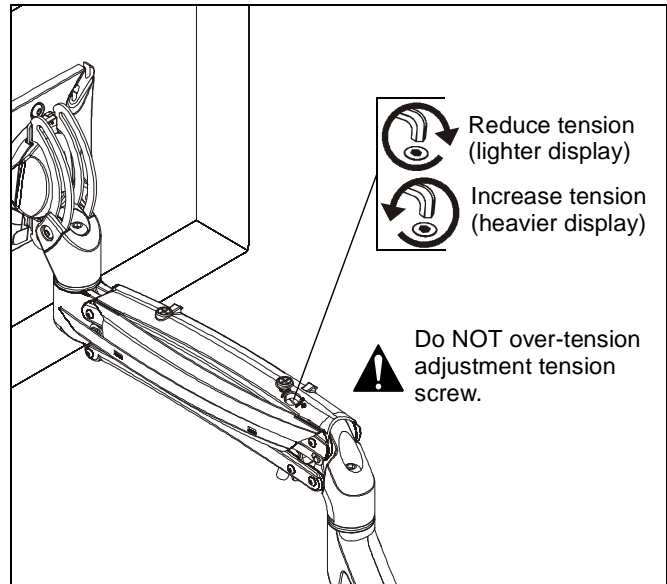

Figure 19
1. Tension may be adjusted with upper tension adjustment screw inside cable management cover and 1/8" hex key (Q). Turn clockwise to reduce tension or counter-clockwise to increase tension. (See Figure 19)